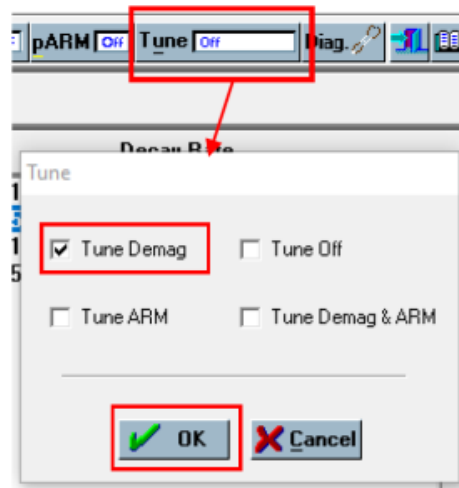

Figure 11. Changing the tune mode
- Press "Tune OFF"  to open the "Tune-Mode selection" dialog box and then choose **Tune Demag** and **OK** (Figure 11).